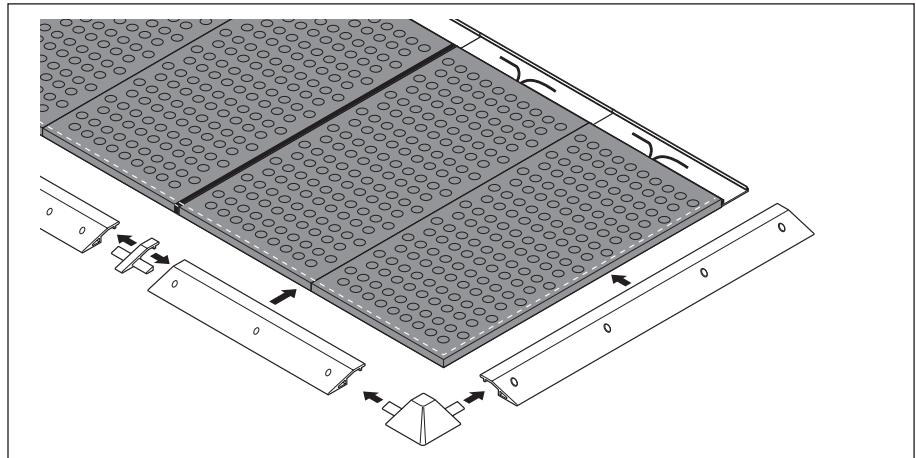

Fig. 5-7: Assemble and position ramp rails
2. Fit ramp rails (4) together with the aid of the connecting wedges and corner connectors (see Fig. 5-7, pg. 12)